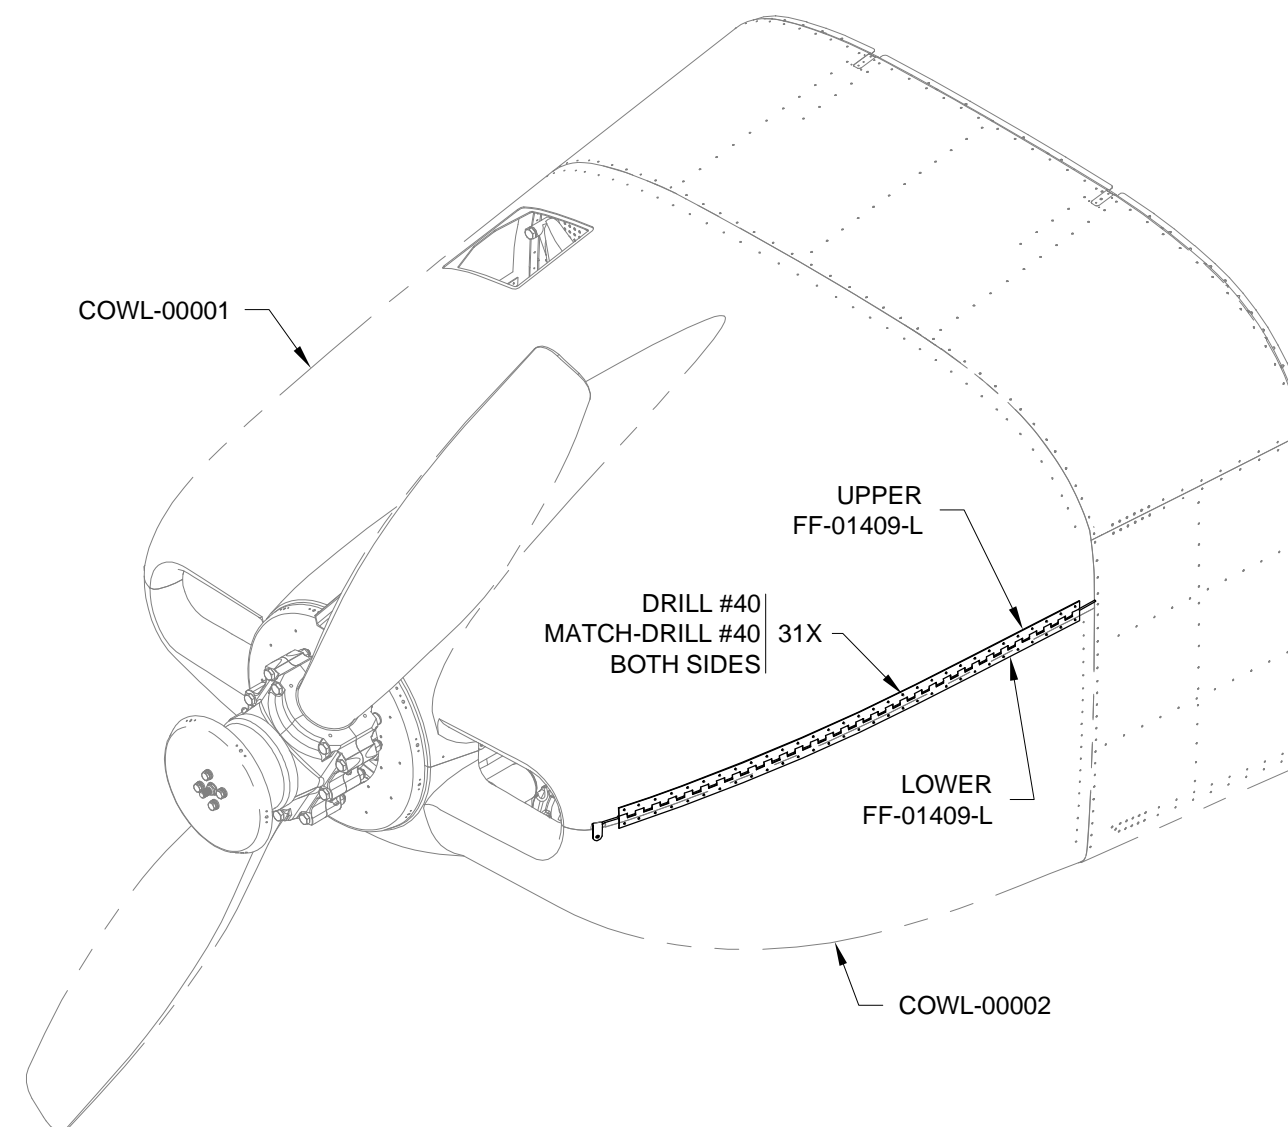

FIGURE 1: DRILL COWL
Step 11: Match-Drill #40 the hinge rivet holes into the upper halves of the FF-01409-L & -R Cowl Attach Piano Hinges using the top cowl as a guide as shown in Figure 1. Use a new drill bit. Drill the forward most hole on each side first, then move aft one hole at a time while alternating left and right sides.
Step 1: Drill #40 an additional hole through the COWL-00001 Top Cowl and COWL-00002 Bottom Cowl on each side of the spinner cutout as shown in the detail view of Figure 1.